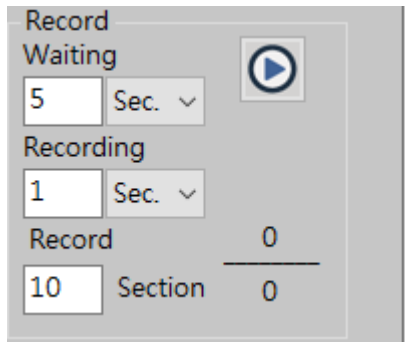
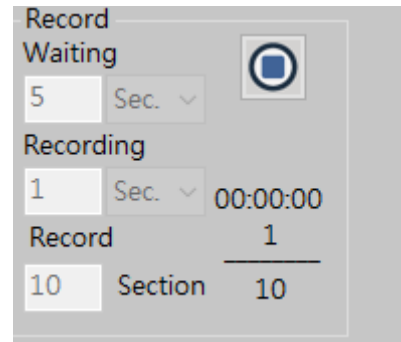

Fig 5-48 Time Lapse –Video Record
Fig 5-49 Time Lapse – Video Recording
(2) Record : Setup Start time, Time Interval, and Files number to active Time lapse function, see Fig 5-48. The actual action refer to Fig 5-49.